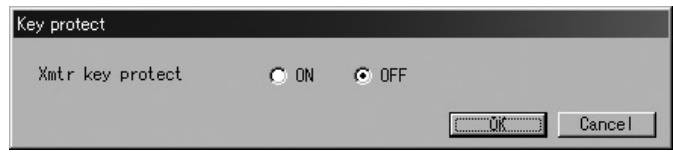

Fig.93
- ① Click on "Diag/Service (T)" at the top-level menu of the screen, select "Key protect" from the "Loop test" drop-down list and click on again.
- ② A message box like the one in Fig. 93 Appears. Select key operation "ON" or "OFF" and click on "OK" button.